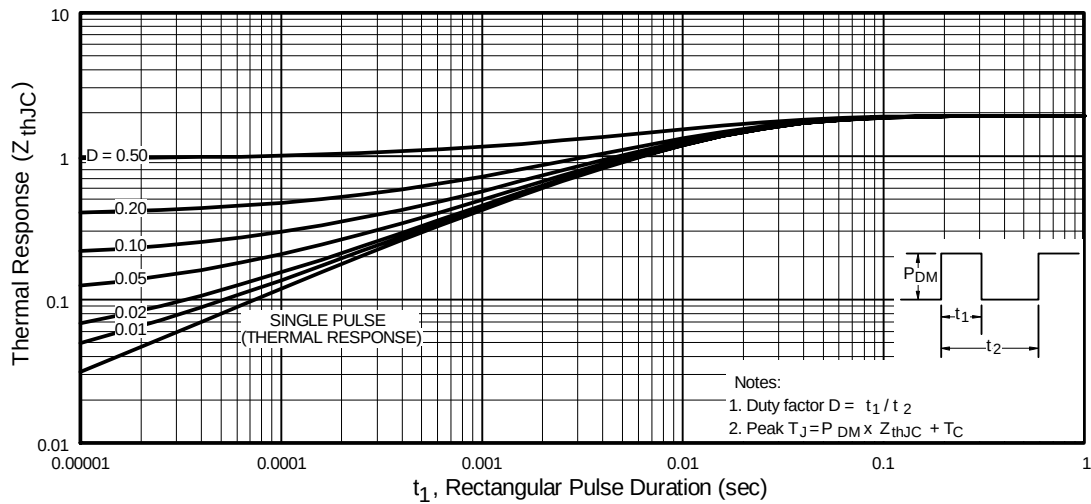

Fig 11. Maximum Effective Transient Thermal Impedance, Junction-to-Case
- ① Repetitive rating; pulse width limited by max. junction temperature. (See fig. 11)
- ② Starting $T_J = 25^\circ\text{C}$, $L = 6.4mH$